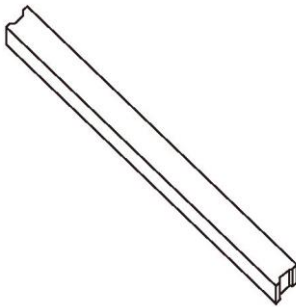

Figure 1 Wood Supporting Frame
- Unloading with a crane: Affix the lifting belt in the wood supporting frame buckle (Fig. 1, 2). It is allowed only to lift one pallet at a time. Before lifting, it is necessary to confirm whether the pallet and paper box are damaged and ensure that the lifting rope is robust and firm. When being lifted close to the ground, the paper box will be gently placed in a relatively flat position on the project site by two people, one on each side.